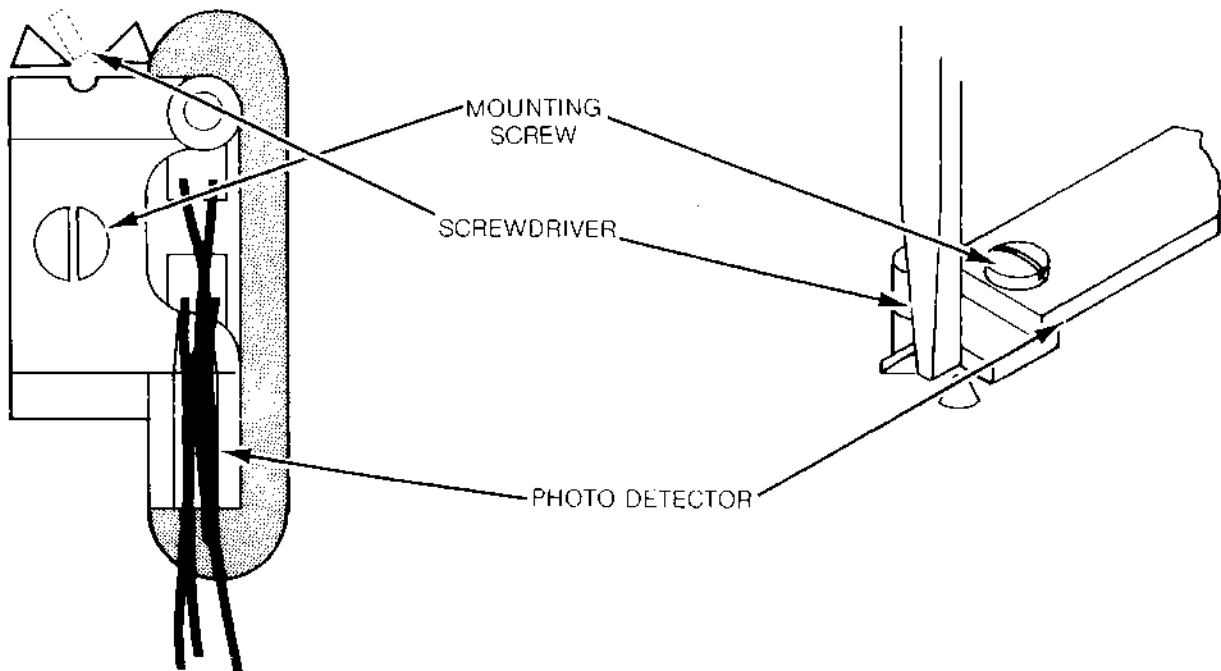

FIGURE 30. TRACK ZERO ADJUSTMENT
- f. If TP8 fails to go high, adjust the photo detector by loosening the mounting screw and positioning it via the pry blocks (reference Figure 30).